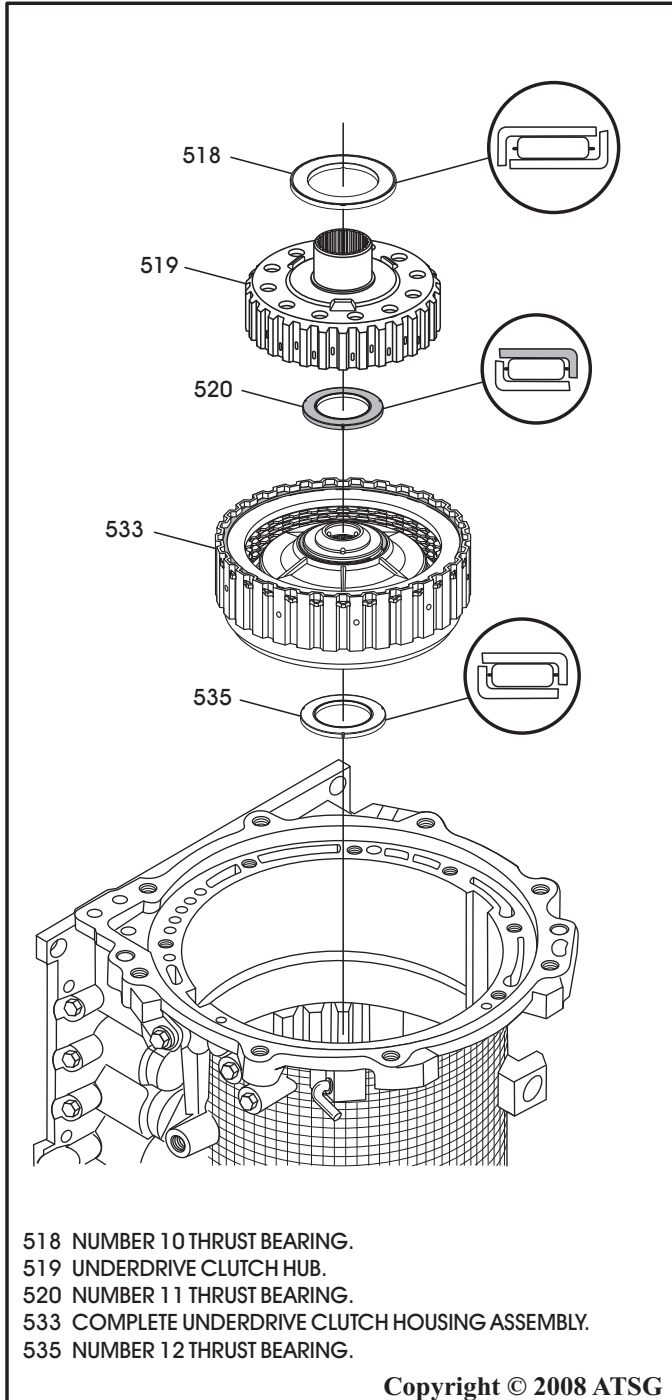

Figure 181
6. Verify that the number 12 thrust bearing is still in place on the output shaft (See Figure 181).
7. Install completed underdrive clutch housing, as shown in Figure 181.
8. Install the number 11 thrust bearing onto the underdrive clutch housing and retain with a small amount of Trans-Jel® (See Figure 181).
9. Install the underdrive clutch hub, as shown in Figure 181, by rotating back and forth until it is fully seated.
10. Install the number 10 thrust bearing onto the underdrive clutch hub, as shown in Figure 181.